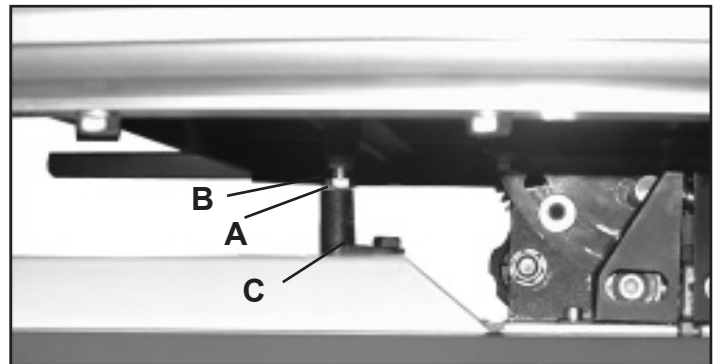

FIG. 11
1. The table may be set at 90° to the saw blade sides by adjusting the table stop screw under the table - installed on page 11. The table stop screw rests on the top of the quick release adjustment stop (C). By loosening the locking nut (A) and then adjusting the screw (B), the table can be set correctly. Retighten the locking nut to make sure that the 90° setting is maintained. FIG. 11.